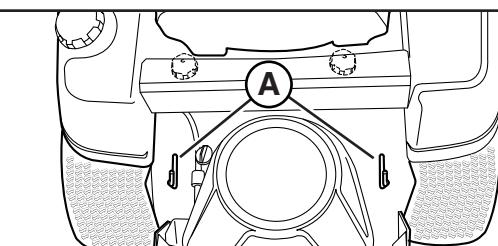

Figure 2
- Disengage the Transmission Release Levers (A, Figure 2), by pulling them back and out towards the side of the machine (C).
- Engage the Transmission Release Levers (B, Figure 2).